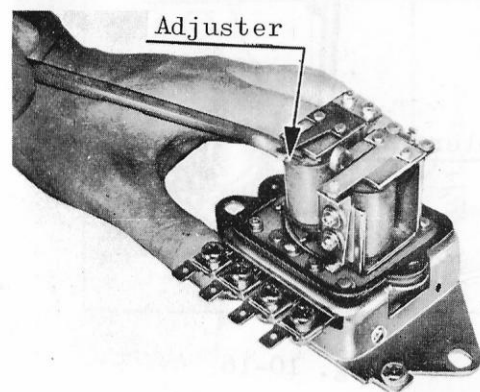

Fig. 10-17
7) If the non-load voltage is in excess of rated voltage of 14.5V, bring it down to rated level by bending the adjuster downward. (See Fig. 10-17)